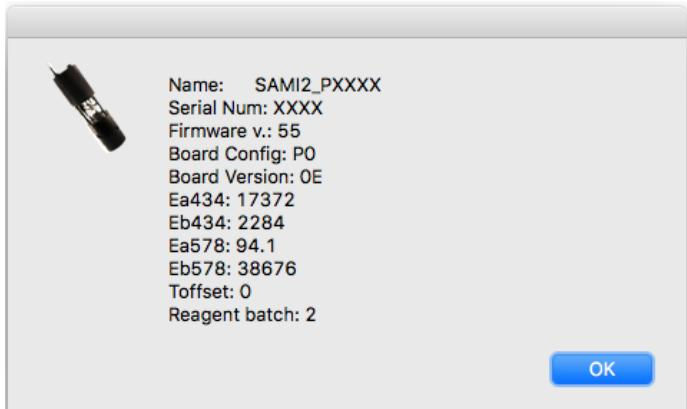

Figure 5: Read calibration window.
**Read Cal Info:** Figure 5 lets you view E values, iSAMI temperature offset compared to NIST-traceable standard, and reagent type (1 is un-purified; 2 is purified). These values should match the values on the calibration certificate that was shipped with the iSAMI after the most recent refurbishment. If values do not match, contact Sunburst Sensors before deployment.